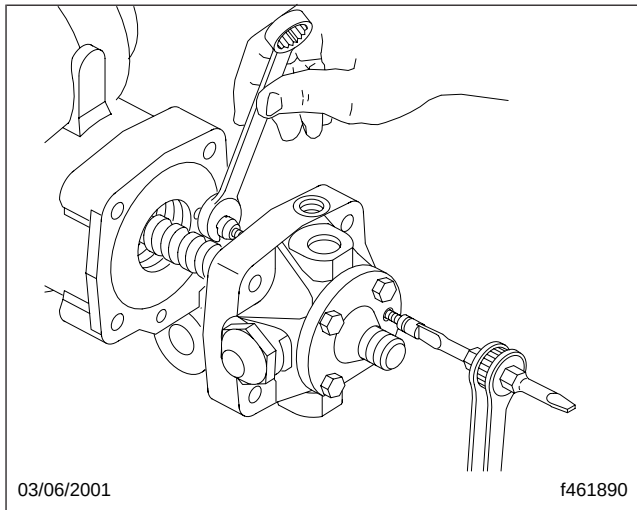

Fig. 4, Flange Removal
10. Carefully insert a screwdriver bit (mounted in a ratchet) into the plunger bore to hold the slotted head of the relief plunger body in place. Using an open-end wrench to hold the flange across the flat sides, carefully turn the flange to remove it from the plunger body; see Fig. 4. Discard the flange.